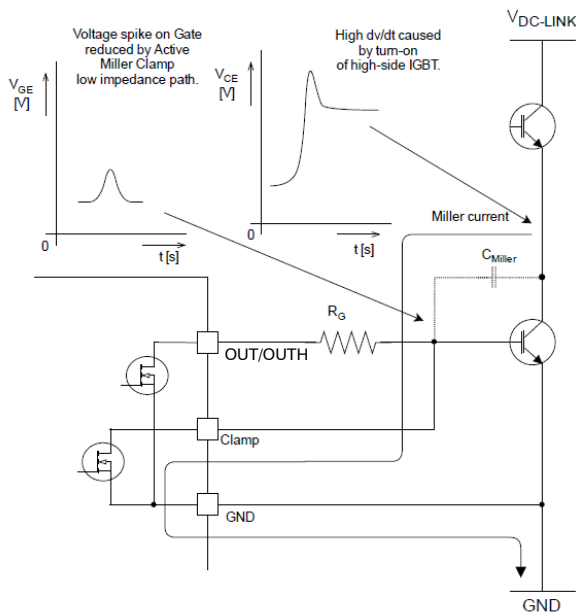

Figure 28. Current Path with Miller Clamp Protection
- In Unipolar power supply the driver is typically supplied with a positive voltage of 15 V at  $V_{DD2}$ . Unwanted turn-on caused by the internal IGBT/MOSFET Miller capacitance could be prevented by Active Miller Clamp function (variant A/D/F). CLAMP output should be directly connected to IGBT/MOSFET gate (Figure 28)